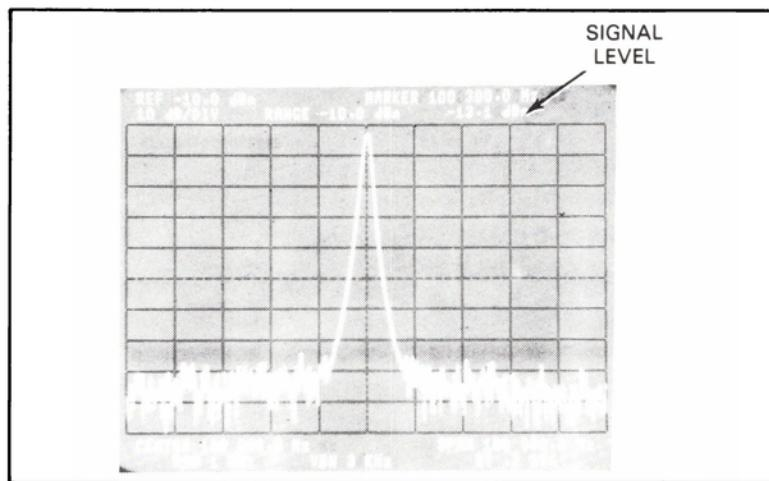

Figure 7-22. Mixer Conversion Loss Test Adjustment
- f. Signal level must be \geq -18 dBm (See Figure 7-22). Record the signal level on the Performance Test Record card.